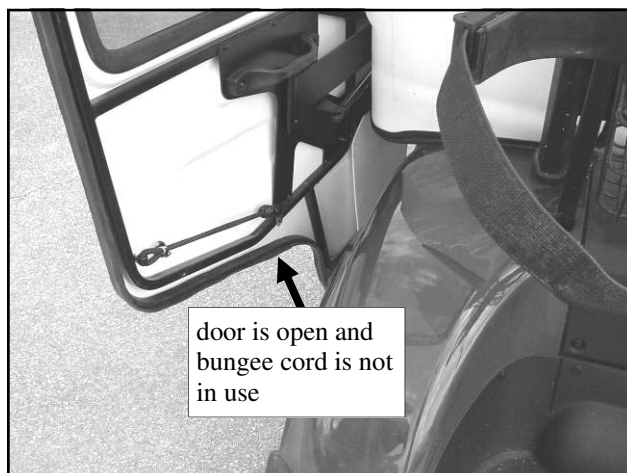
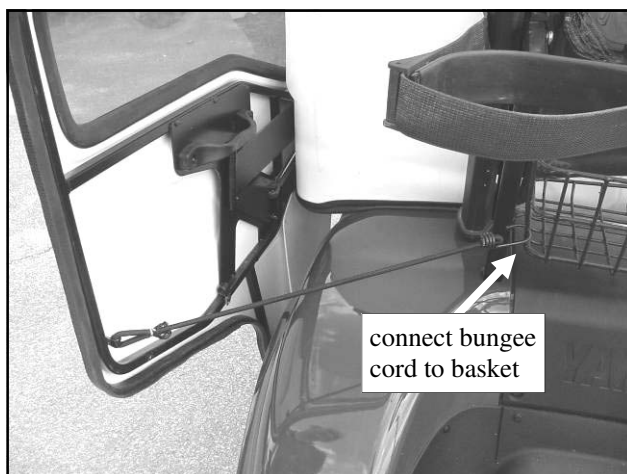

Fig. 5.1 (view from rear)
Fig. 5.1.1 (view from rear)
5.1 Fig. 5.1 shows the door bungee cord stored (not in use). Fig. 5.1.1 shows the cord stretched to connect to the basket to stabilize the door in the open position.